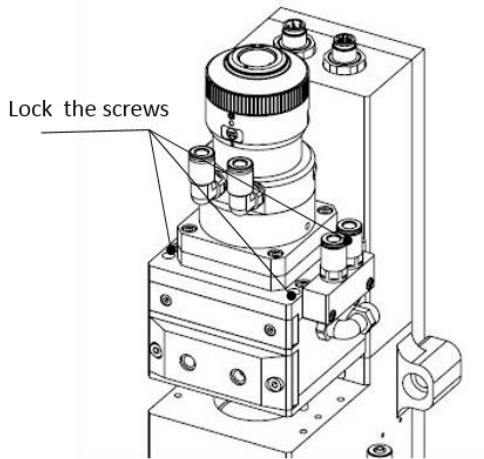

Figure 6.5 — Dismantle collimating component
- Use a 3mm internal hexagonal wrench to unscrew the locking screws of the collimating components (as shown in Figure 6.5), seal the part connected with the components of collimating components with textured paper so as to prevent the entry of dust;